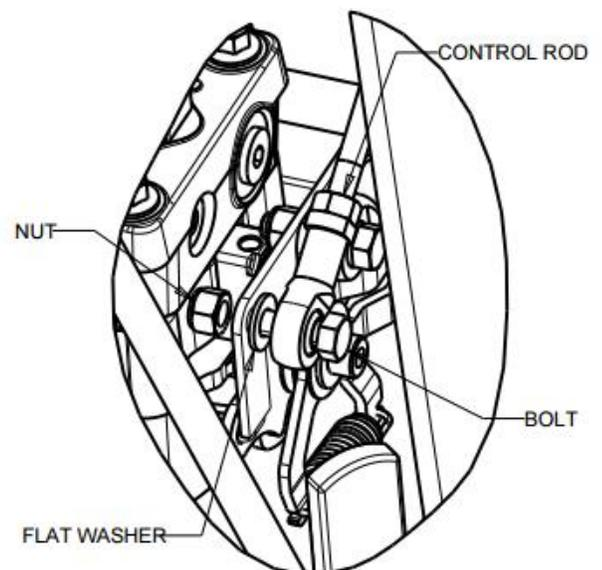

Fig. 1
9. Attach the two steering control rods to the pumps using 2 - 5/16" X 1" bolts, flat washers, and Nylok nuts as shown in Fig. 1.